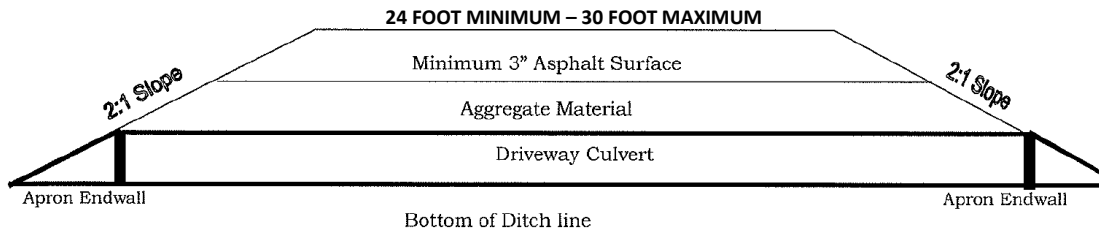

Figure 1-1
1. The side slope grade must be no less than two to one (2:1) as per the diagram (Figure 1-1) below: